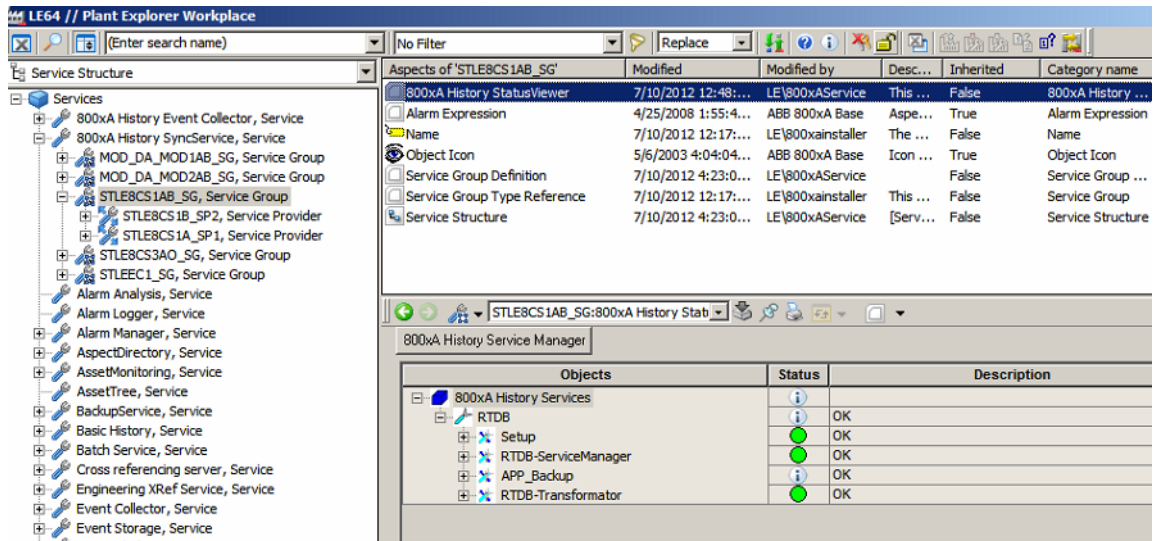

Figure 38. 800xA History Service Manager
- Click **800xA History Service Manager** as shown in Figure 38.
6. Click **800xA History Service Manager** as shown in Figure 38.